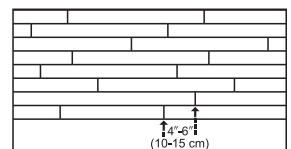

Figure 3
- **Tramex Concrete Moisture Encounter Meter** (Figure 2): Moisture readings should not exceed 4.5 on the upper scale. (Figure 3 shows an unacceptable reading of over 4.5) Concrete Moisture Meters give qualitative reading results-not quantitative ones. These results are a quick way to determine if further testing is required.
- Be attentive to staggering the ends of the boards at least 4'-6" (10-15 cm) when possible, in adjacent rows (Figure 3). This will help ensure a more favorable overall appearance of the floor.
- End-joints of adjacent rows should be staggered a minimum of 4"-6" (10-15 cm) when possible, to ensure a more favorable overall appearance (Figure 3).
- Check for a tight fit between all edges and ends of each plank. End-joints of adjacent rows should be staggered 4"-6" (10-15 cm) when possible, to ensure a more favorable overall appearance (Figure 3).